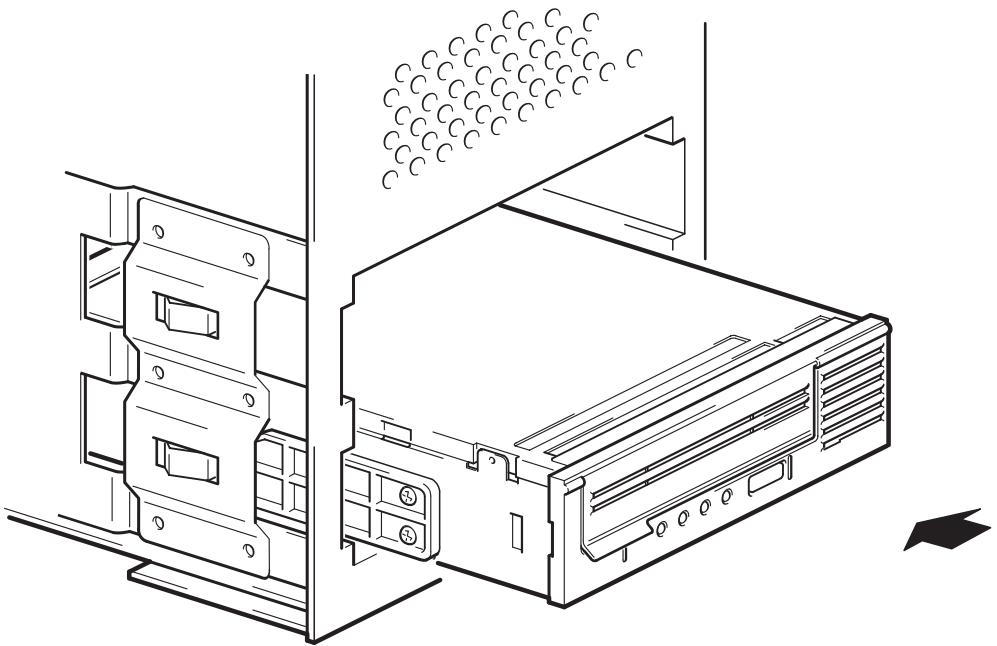

Figure 6: installing the drive
- 1 Slide the tape drive into the open bay, aligning the tray or rails with the slots in the bay, as shown in Figure 6.